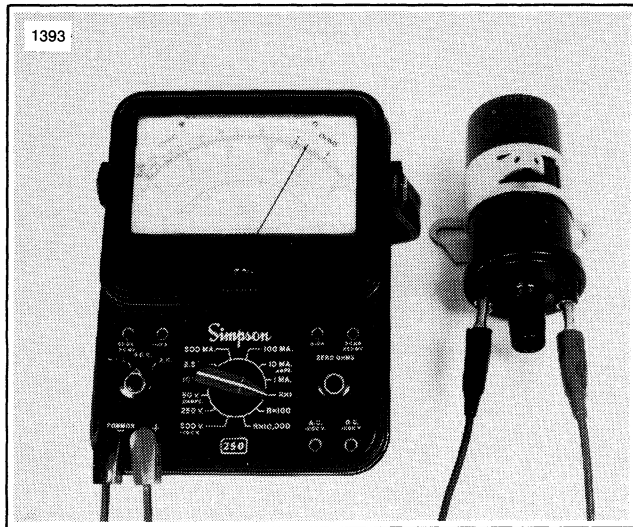

Figure 8-22. Checking Primary Winding Resistance
3. See Figure 8-22. Check primary winding resistance. Set ohmmeter to RX1. Reading should be 3.4 to 4.2 ohms.